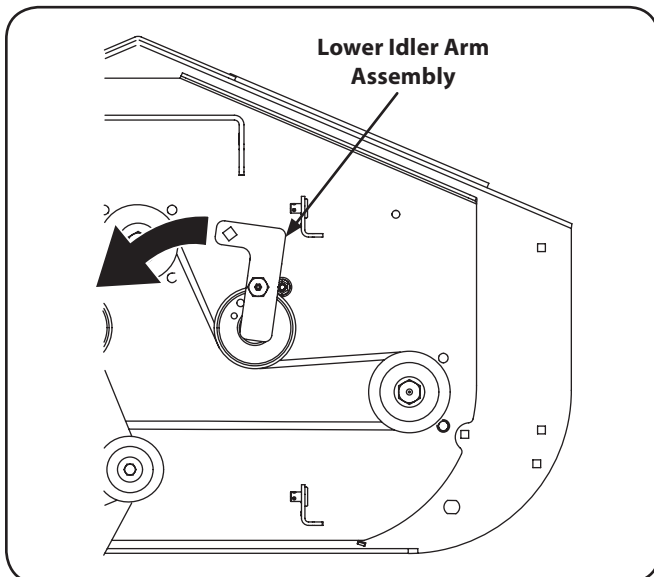

Figure 7-4
- Using a $\frac{3}{8}$ " socket breaker bar or socket ratchet insert the drive end into the $\frac{3}{8}$ " square opening in the lower idler arm assembly and push the idler arm counterclockwise. See Figure 7-4. While holding the idler arm back, loosen the deck belt from the pulley and slide the belt away from the pulley.